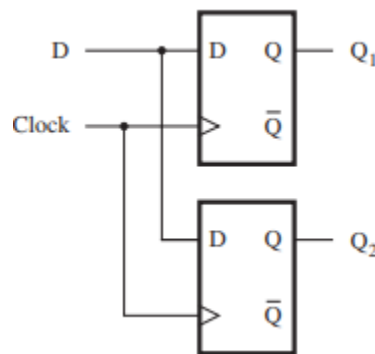

Fig.5.5:Schematic of Verilog module “exampleblocking”
- The synthesized circuit has two parallel flip-flops, as illustrated in Fig 5.5